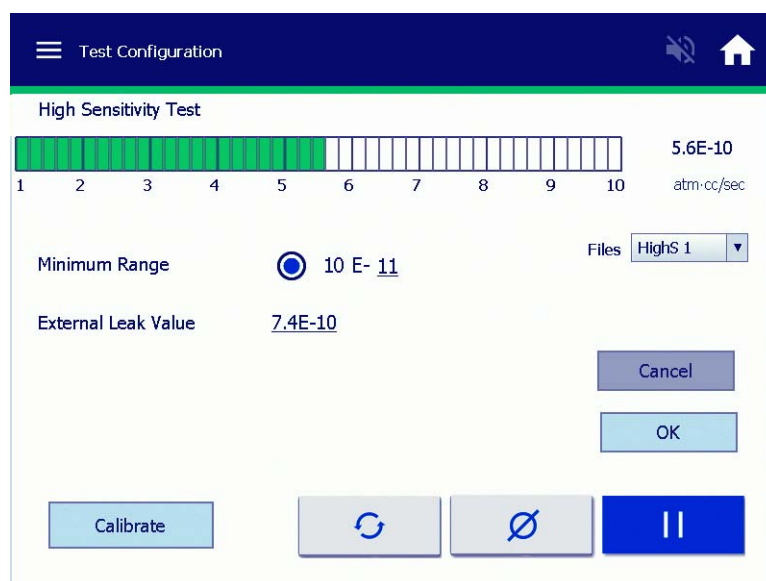

Figure 5-10 High Sensitivity
2. Select **High Sensitivity** and press **Set-Up** and Figure 5-10 appears.